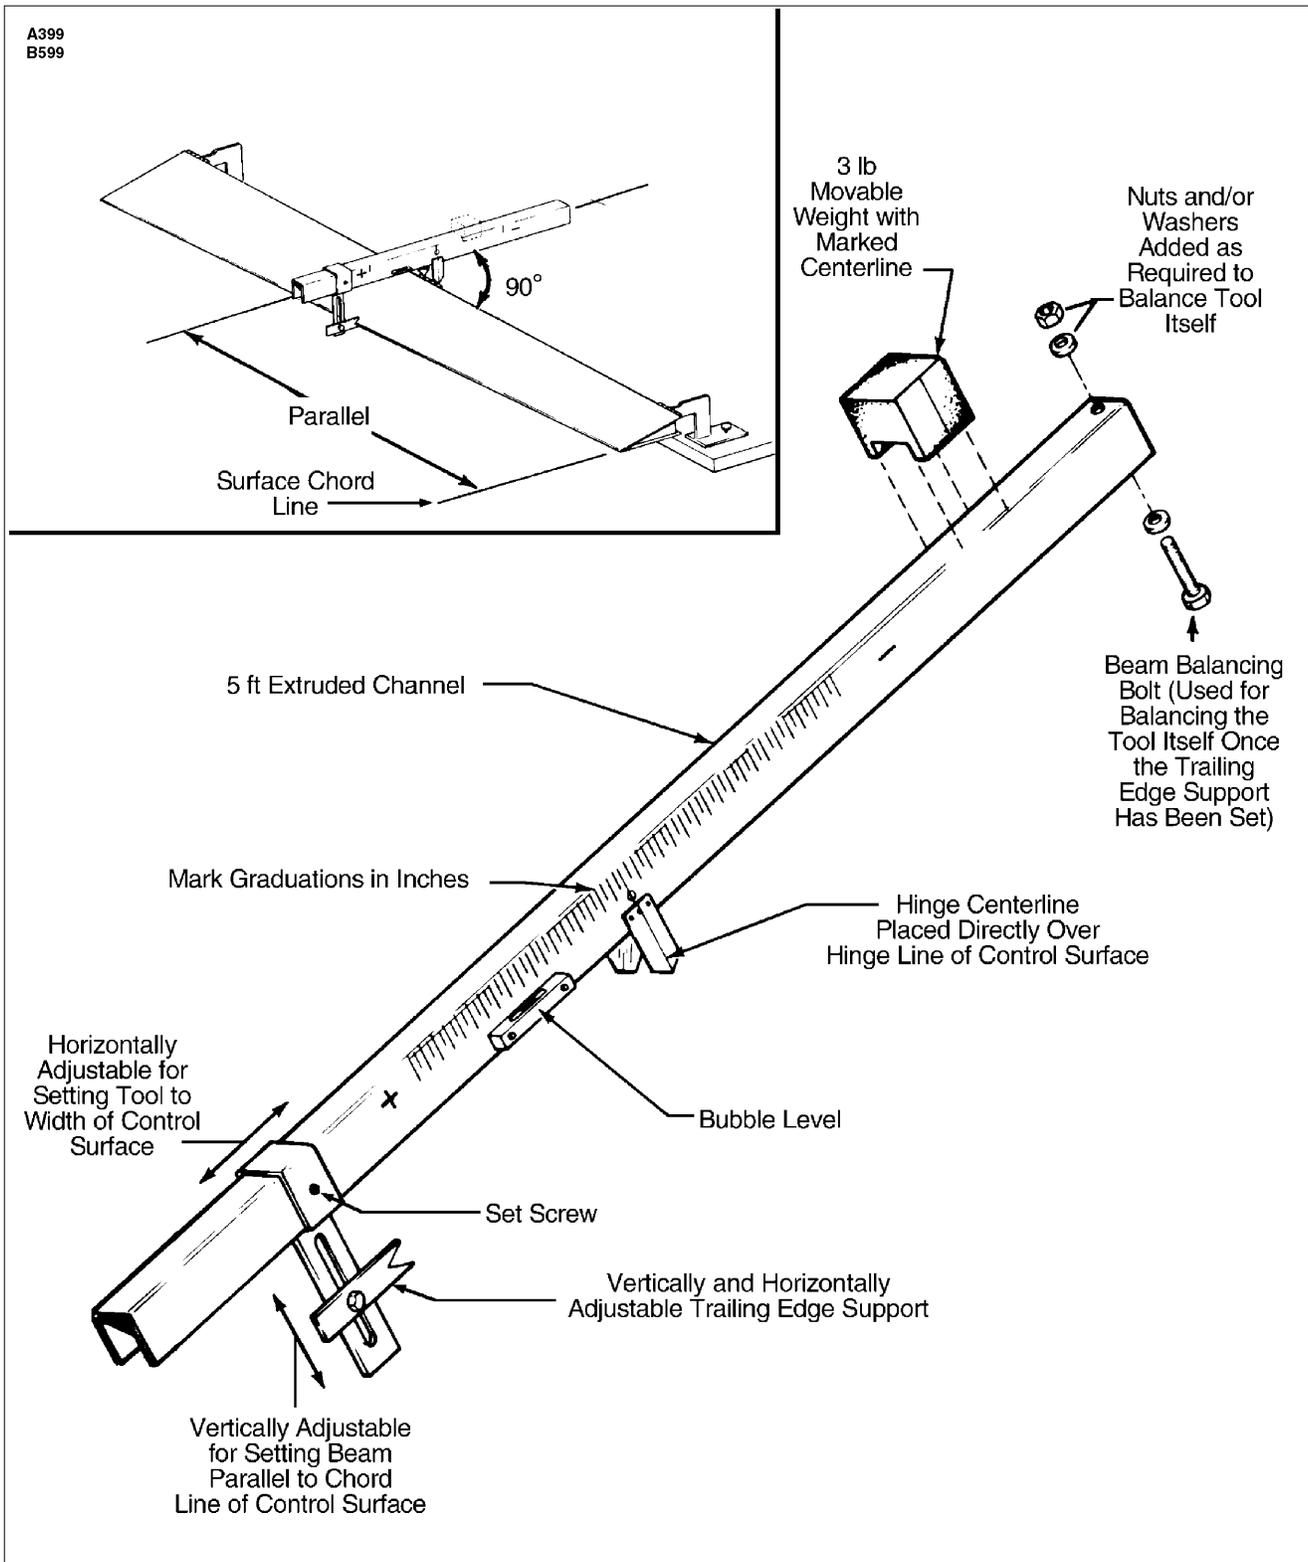

Figure 95-2. Control Surface Balancing Tool
B. Control Surface Balancing Tool ( ref. Figure 95-2 )